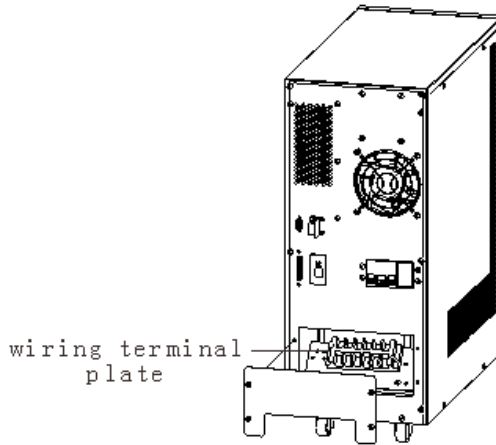

Figure 12
- (1) Remove two screws with “+” screwdriver (Figure 12)